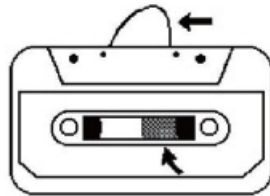

Fig.1
- Check that there are no loose layers of tape visible through the cassette center window **(see Fig. 1)**. Take up any loose layers, using a pencil or hexagonal barreled ballpoint pen, before inserting the cassette into the machine **(see Fig.2)**